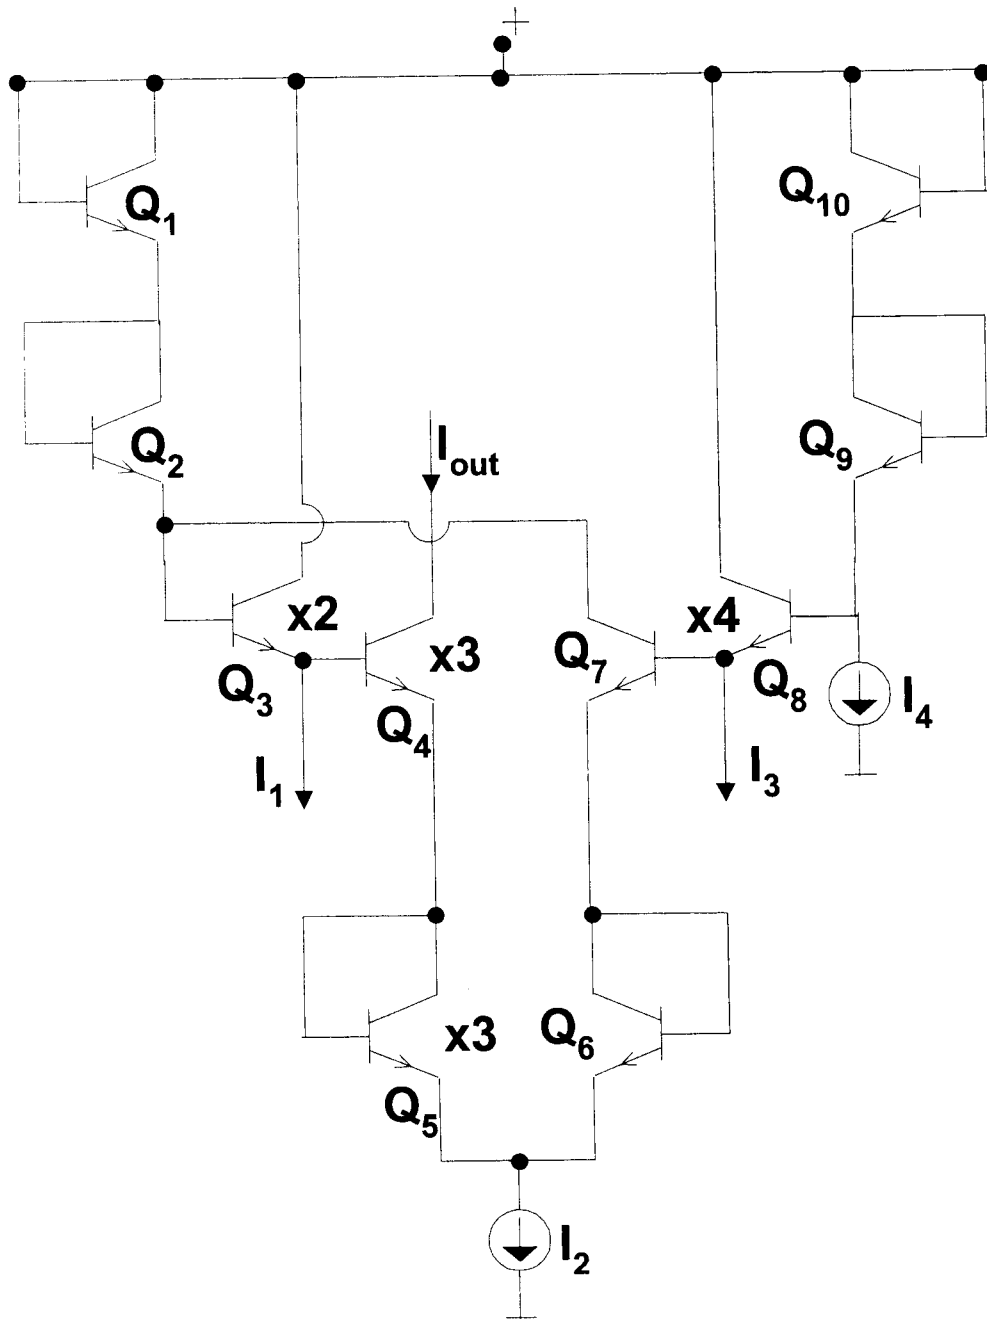

Figure 4.2
- b. For the circuit of Figure 4.2, I_1 and I_3 are the input currents whereas I_2 and I_4 are constant bias currents. Derive an expression for the output current I_{out} stating any assumptions that you make, and hence outline the function of this circuit. Write down an expression for the output current when $I_1 = \left| \int I_m dt \right|$ and $I_3 = \left| \frac{dI_m}{dt} \right|$, given that $I_{in} = A \sin(\omega t)$. [8]